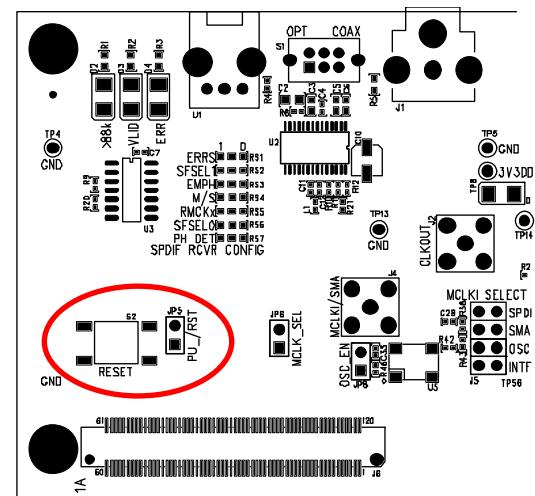
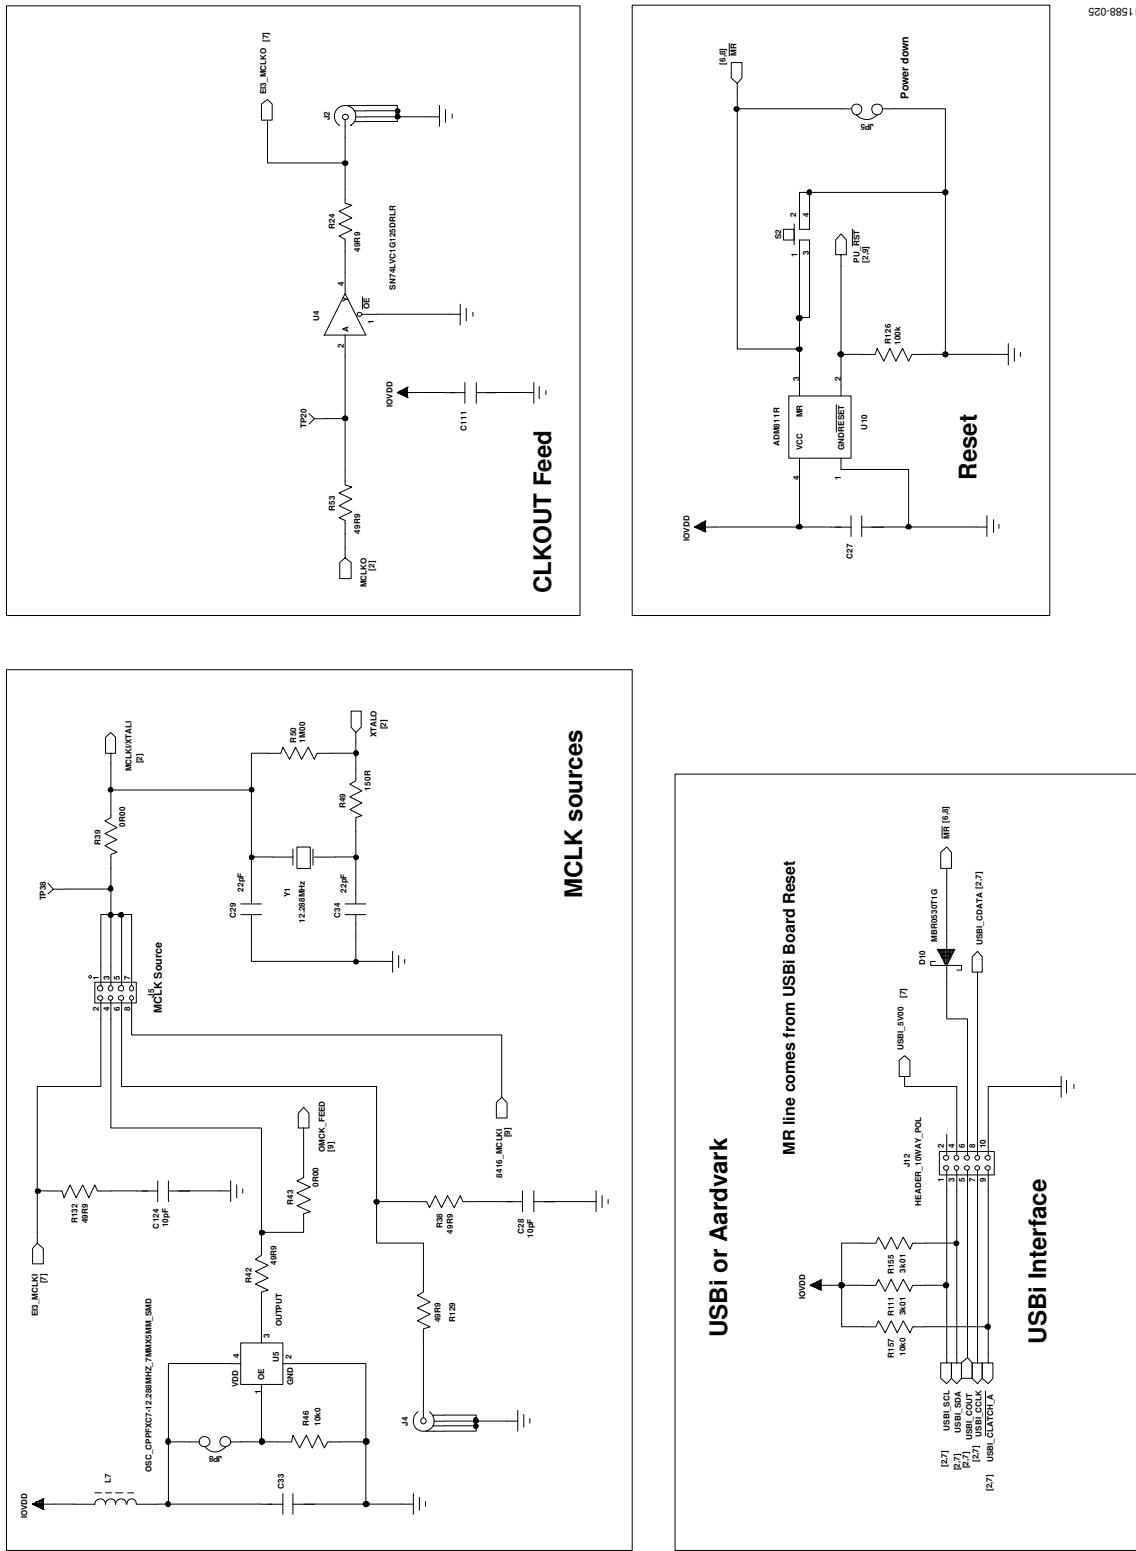

Figure 9. Reset Switch and Power-Down Jumper
Figure 25. Schematic, Page 6—MCLK Selection, USBi Interface, CLKOUT Feed, and Reset Generator
The EVAL-ADAU196xAZ has provisions for resetting and powering down the ADAU196xA. S2 on the evaluation board, shown in Figure 9, is a momentary reset switch that pulls the master reset (MR) line low; this line controls the reset generator U10. MR is also connected to the USBi and the SDP interface connectors through steering diodes and protection resistors so that outside devices can control the reset state of the evaluation board as shown in Figure 25. The power-down jumper JP5 allows the MR line to be tied low. The output of the reset generator drives the PU/RST line.
The PU/RST line is directly connected to two devices: the S/PDIF receiver and the ADAU196xA. The line is held low by a pull-down resistor until the reset generator U10 asserts the line high as shown in Figure 25. The PU/RST line is also connected to a pin on the SDP interface through a steering diode and protection resistor allowing external reset control.